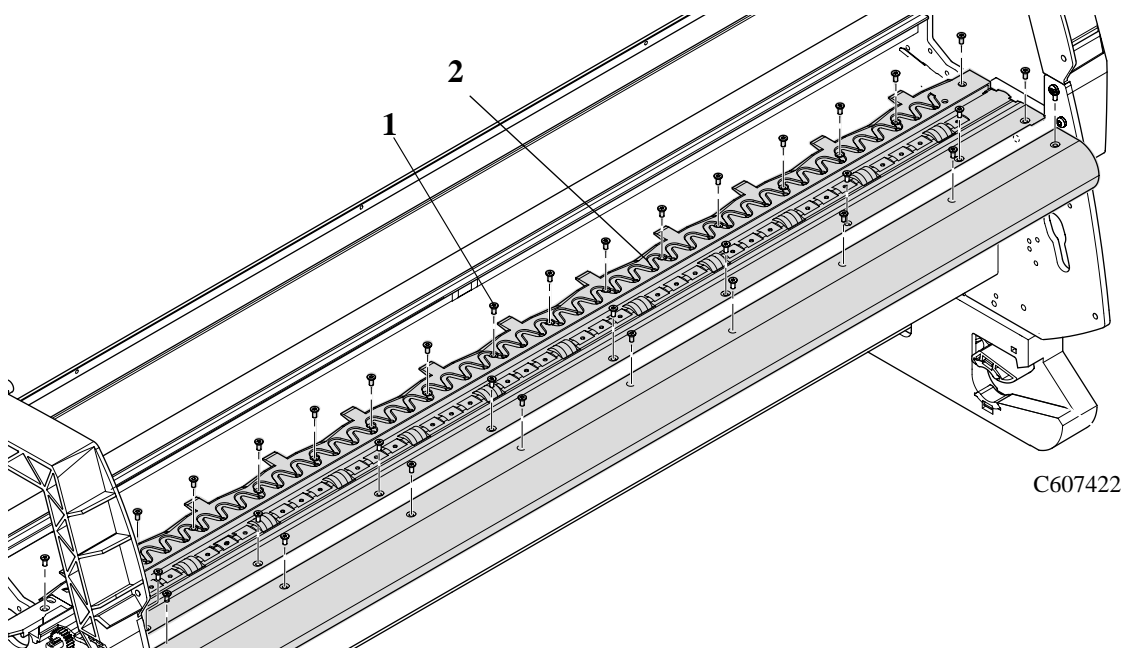

Figure 75: Platen Assembly
2. Remove twenty-nine screws T-10 screws (item 1) from the platen assembly (item 2) and remove the platen assembly (see Figure 75).